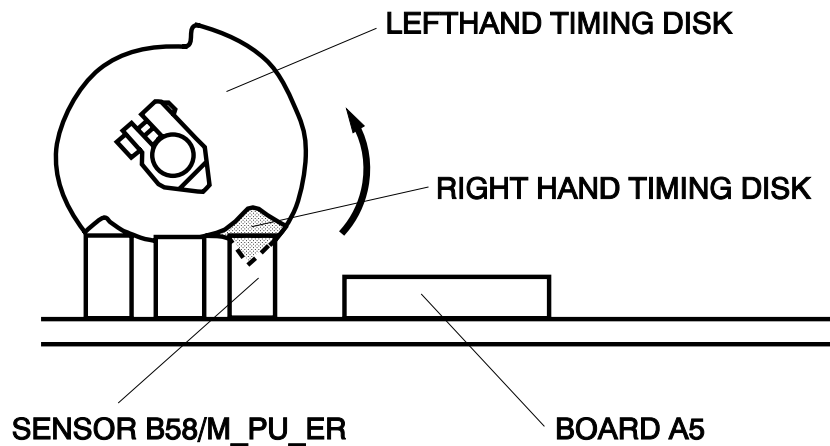

figure 37
38. Rotate the right hand TIMING DISK in the direction of the arrow (fig. 37) until SENSOR B58/M_PU_ER is interrupted. This is indicated by a BEEP from the SENSOR TEST.